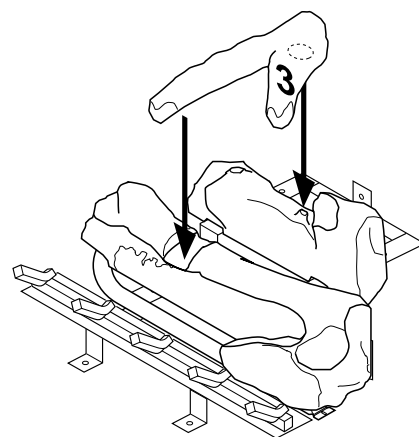

Figure 52 - Installing Log No. 3
3. Place log #3 (crossover log) onto the rear and front logs. Make sure it is seated properly into the notch on the front log and over the raised triangular portion of the rear log as shown in Figure 52.